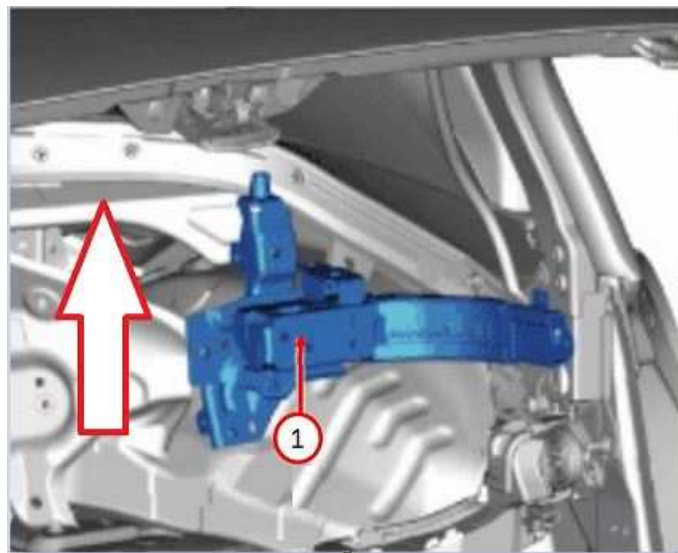

Fig. 4
7. Lift up the link bracket (Fig. 4) .